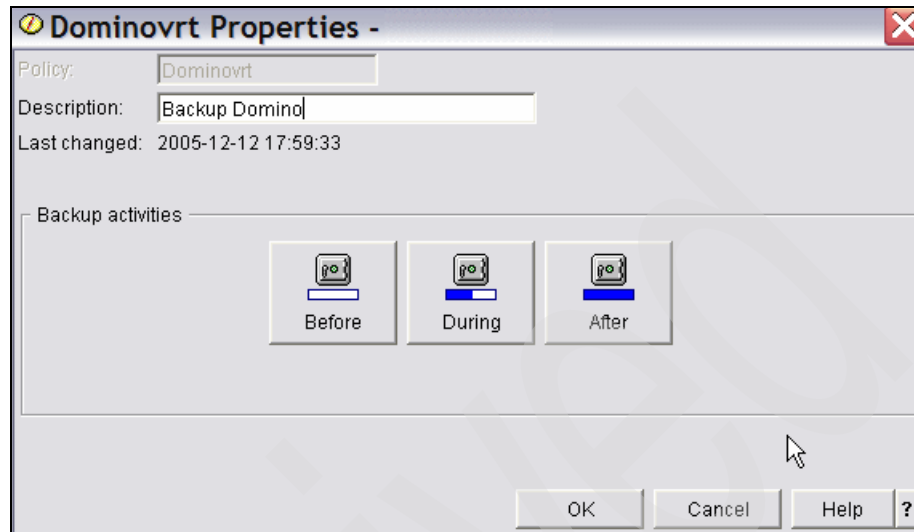

Figure 5-57 BRMS move policy change, Before/During/After Save
3. You should now verify a few items prior to running the backup. Click **Before** in the Properties window shown in Figure 5-57.